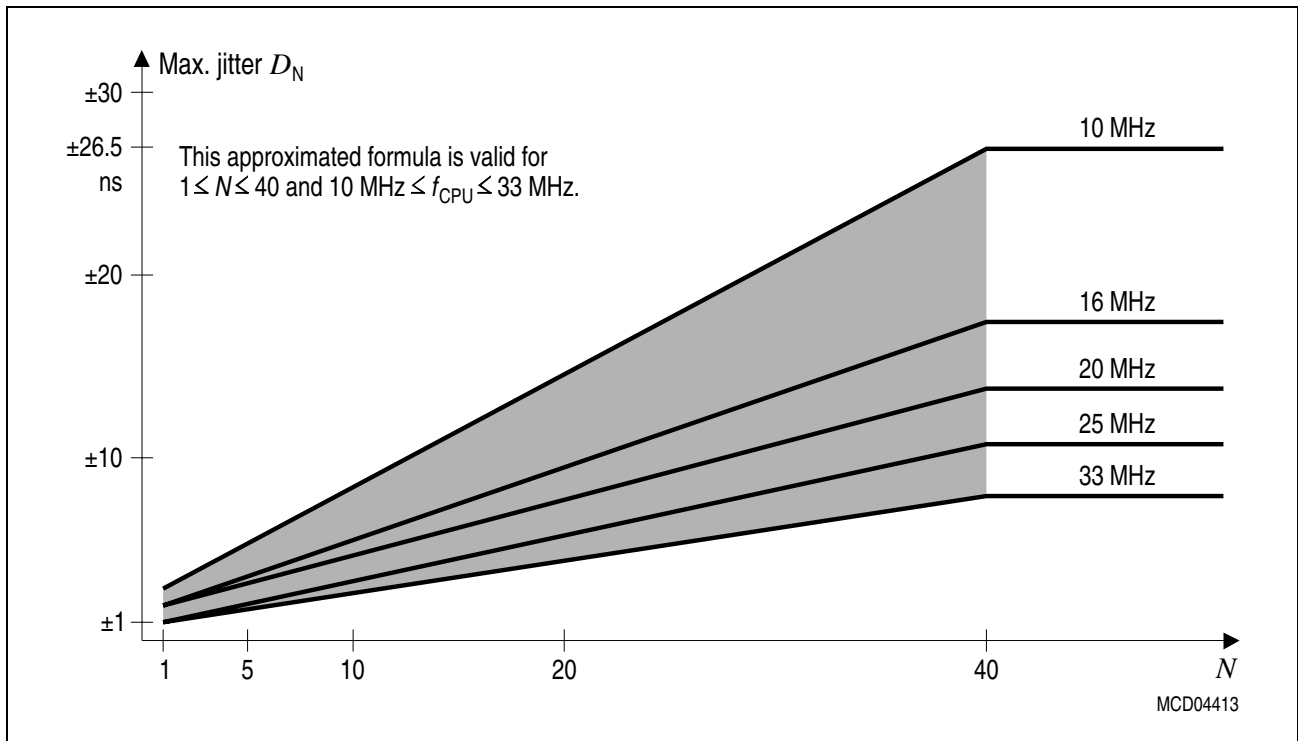

Figure 11 **Approximated Maximum Accumulated PLL Jitter**
The timings listed in the AC Characteristics that refer to TCLs therefore must be calculated using the minimum TCL that is possible under the respective circumstances. The actual minimum value for TCL depends on the jitter of the PLL. As the PLL is constantly adjusting its output frequency so it corresponds to the applied input frequency (crystal or oscillator) the relative deviation for periods of more than one TCL is lower than for one single TCL (see formula and **Figure 11**).
*Note: For all periods longer than 40 TCL the $N = 40$ value can be used (see **Figure 11**).*